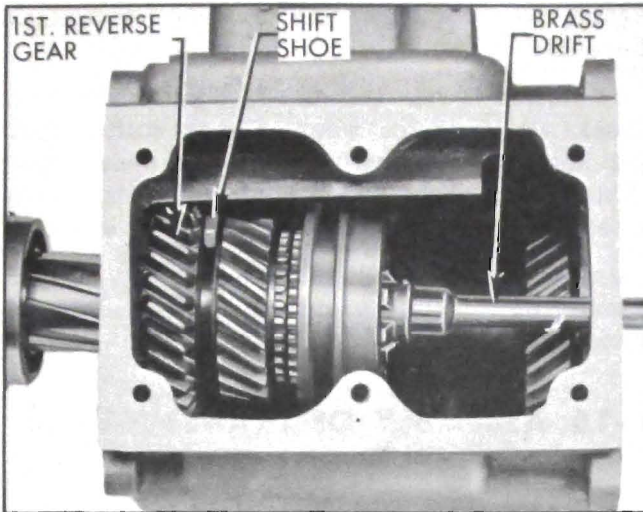

Figure 4-17—Removing Main Shaft
10. Remove main shaft by sliding shaft rearward through rear of case allowing synchronizer assembly, second speed gear, and first-reverse gear to slide off front of shaft. See Figure 4-17.